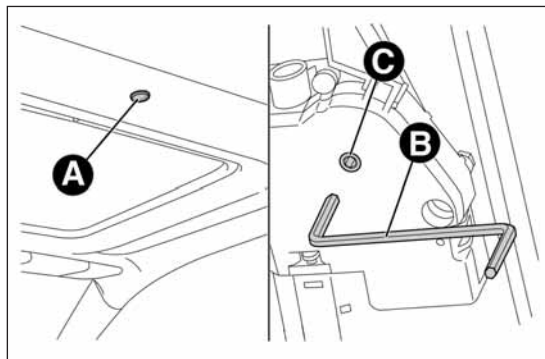

fig. 56
- ☐ remove the protective cap A fig. 56 located on the internal lining, between the two sun blinds;